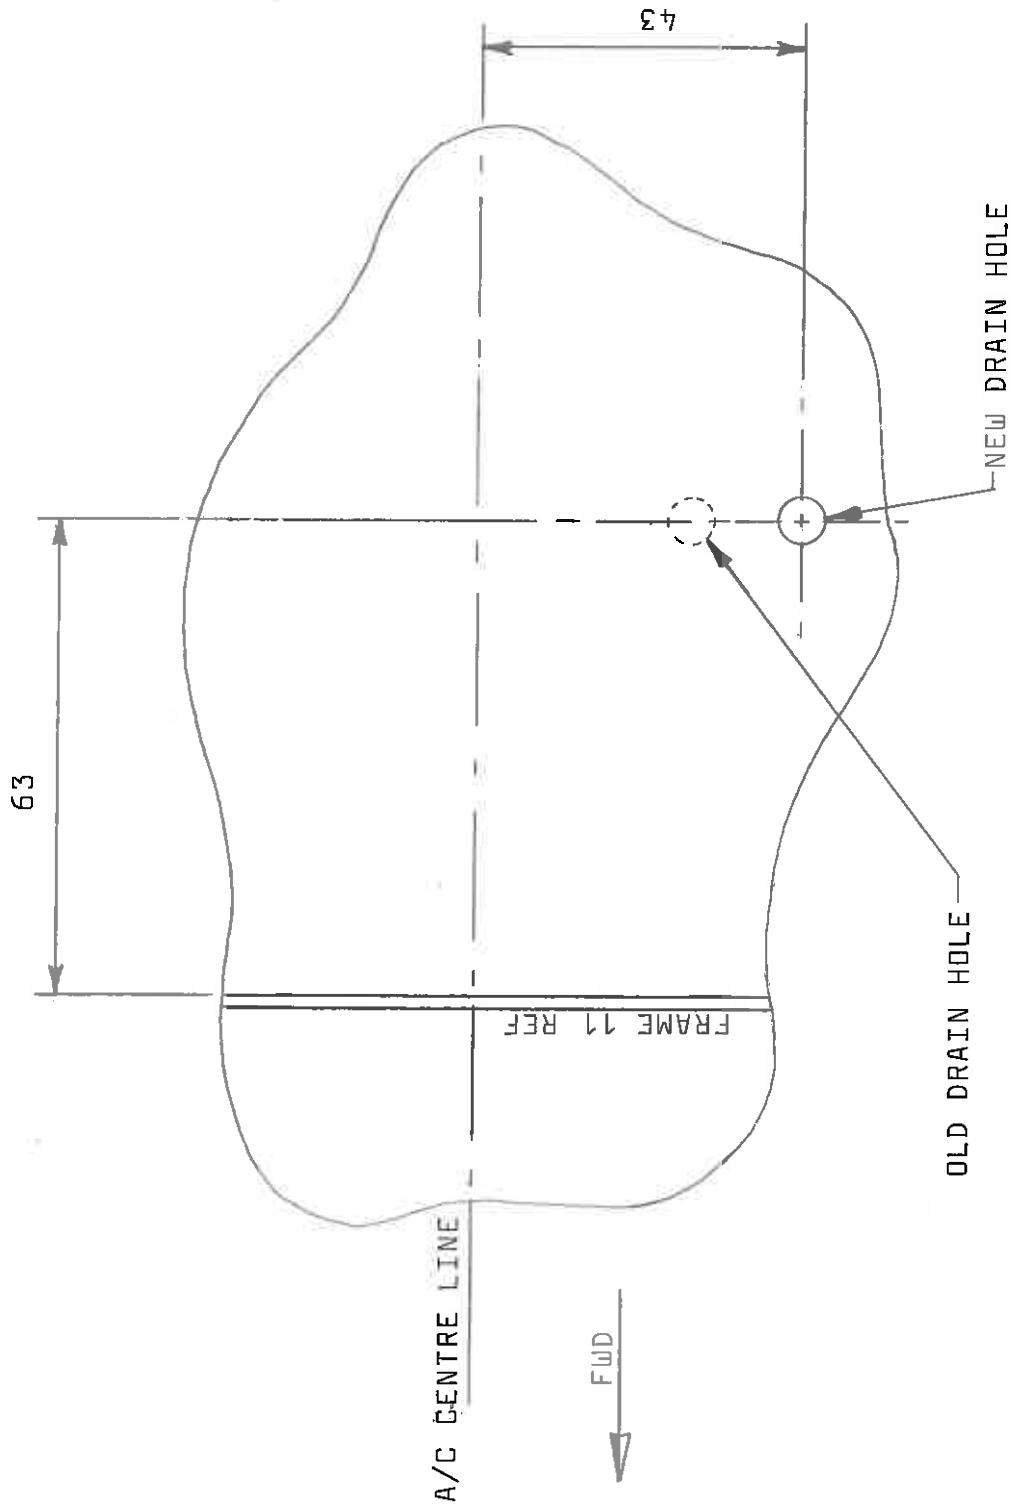

FIG 2
- (ii) If drainage hole is covered by bump stop, drill a new hole in the position shown in Fig.2.